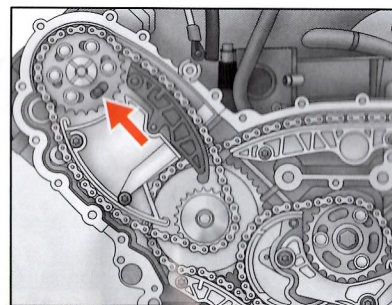

Fig.21
- (4) At TDC the slot of LH Bank camshaft sprocket will be positioned at approximately 4 o'clock and the slot of RH Bank camshaft sprocket will be positioned at approximately 8 o'clock. (Fig.21 & 22)